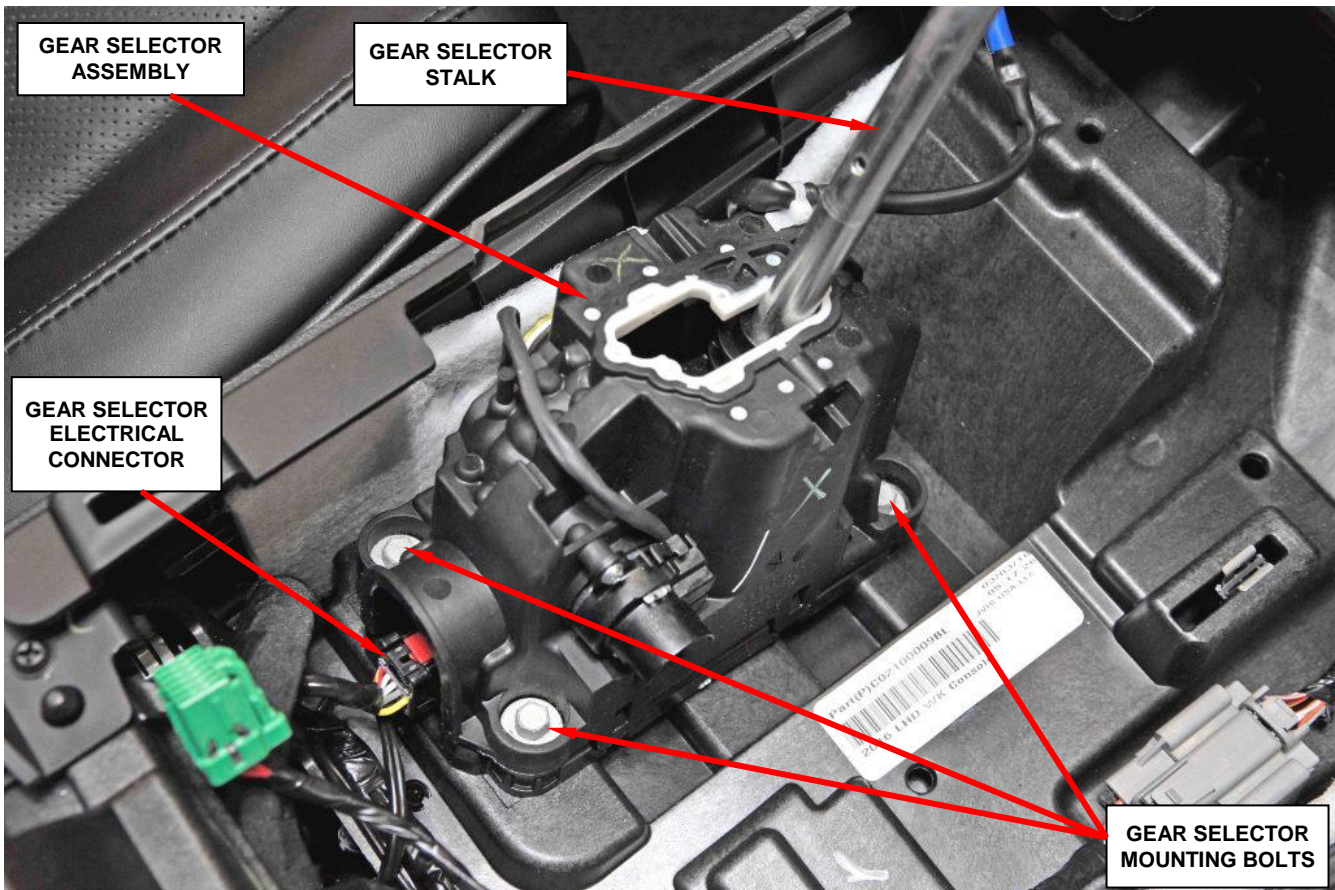

Figure 5 – Gear Selector Mounting Bolts
8. Remove and save the four gear selector mounting bolts (Figure 5).
9. Disconnect the gear selector electrical connector by depressing and sliding back the red tab on top of the gear selector electrical connector prior to removal of the connector (Figure 5 and 6).
10. Carefully remove and discard the original gear selector assembly (Figure 5 and 6).
13. Install the four gear selector mounting bolts and tighten the mounting bolts to 70 in. lbs. (8 N·m) (Figure 5).